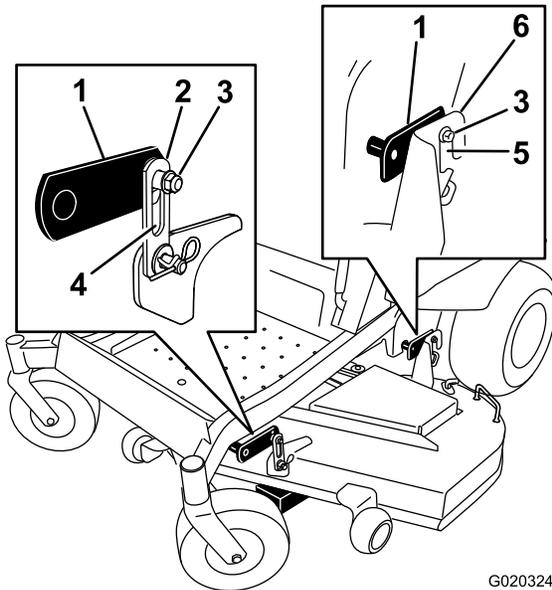
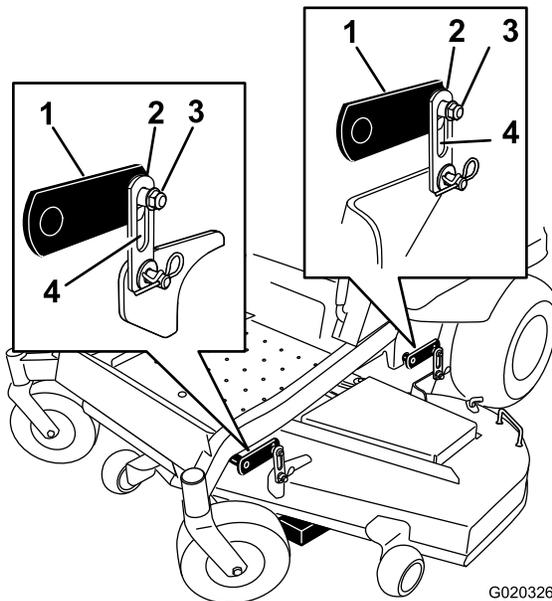

Figure 66
Figure 67
- Loosen the leveling adjust locking nuts (item 3) on all four corners so that the deck is sitting securely on all four blocks (Figure 66 and Figure 67).
- Ensure that the deck hangers are all the way down (at the top of the slot) and the deck lift foot lever is pushed back against the stop (Figure 66 and Figure 67).
- Tighten the four leveling adjust locking nuts (Figure 66 and Figure 67).